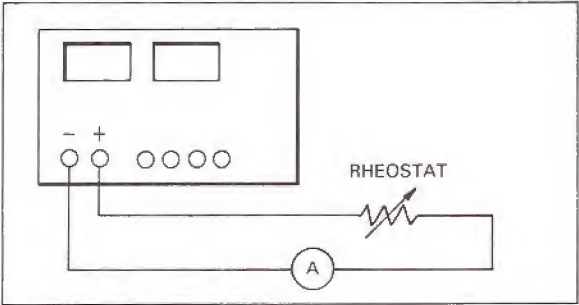

Figure 7-3.
- b. Connect a known calibrated ammeter and a 18W (30W for the LPS-152) rheostat as shown in Figure 7-3.